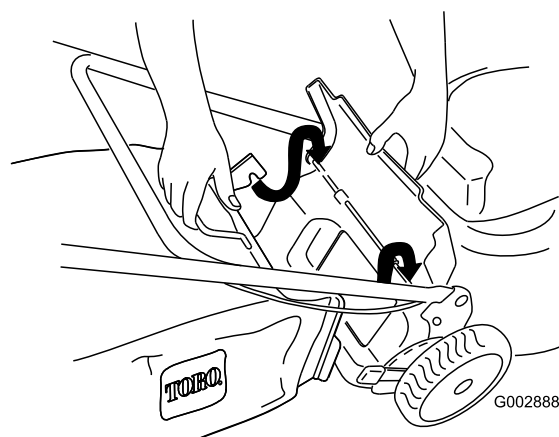

Figure 27
3. Install the bag onto the door rod (Figure 27).